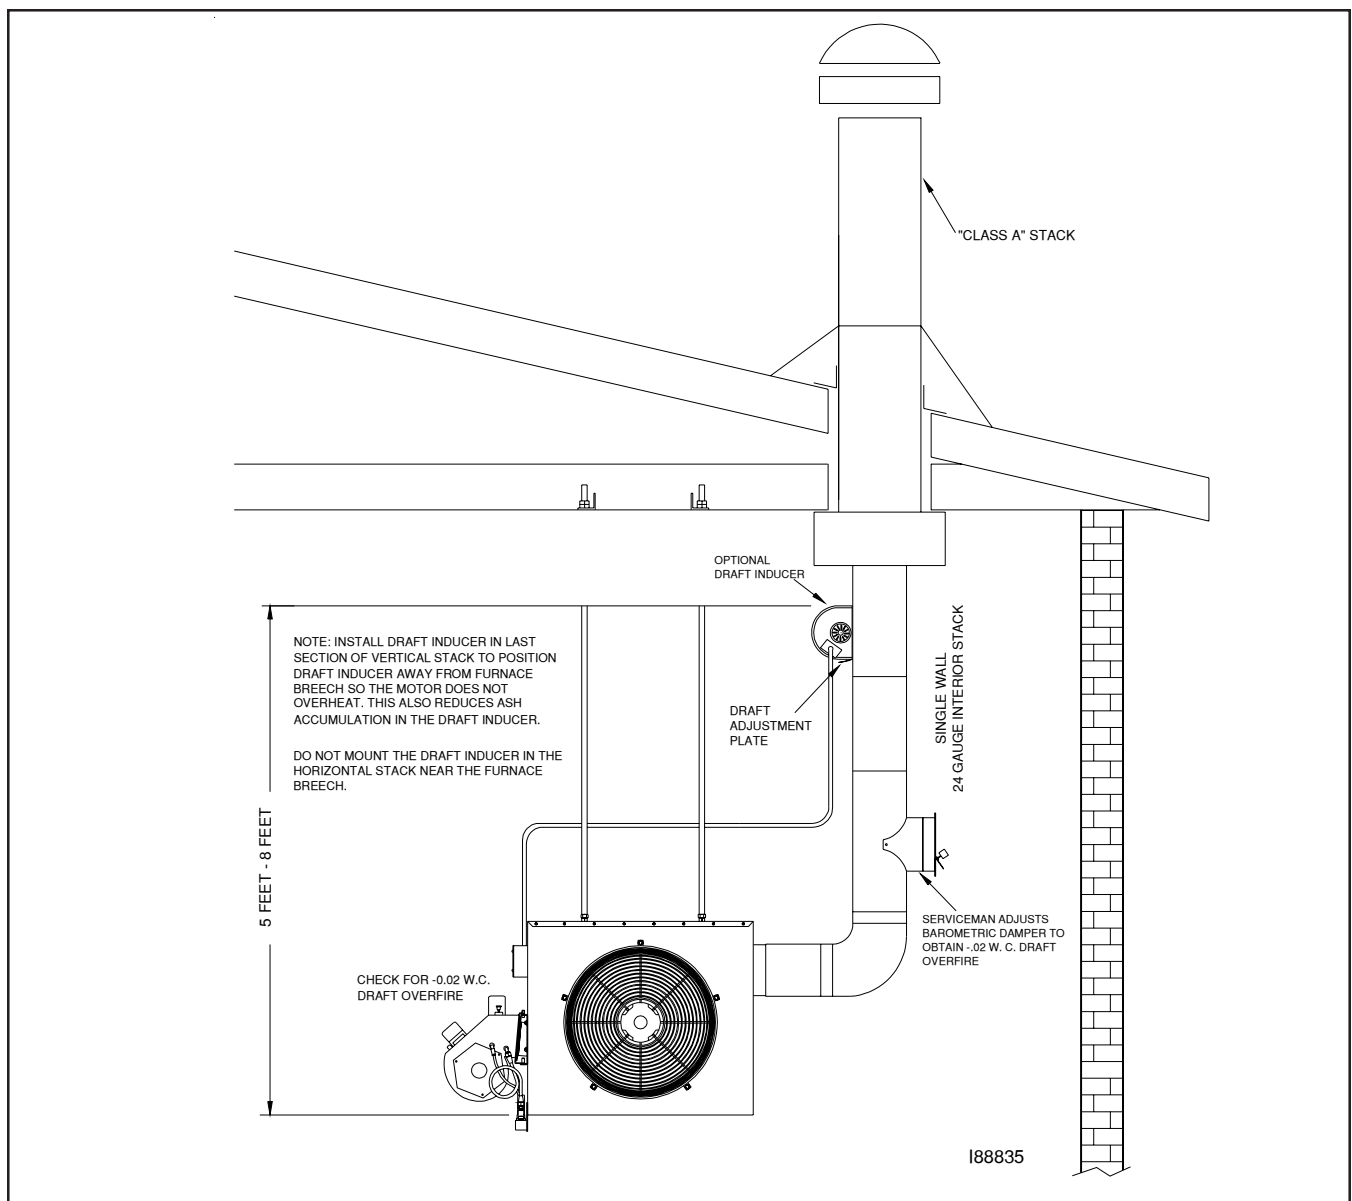

Figure 4Q - Installation of the Optional Draft Inducer
The draft inducer is designed to aid in the removal of the natural draft created by the appliance to vent the combustion gases to the outside of the building. As the paddle wheel turns, a negative pressure is maintained within the stack so that the combustion gases can leave the furnace and travel out of the stack. (See Figure 4Q.) *Proper sizing, installation, and adjustment of the draft inducer are critical for optimal draft inducer operation.*
1. Refer to Figure 4Q. Follow the instructions included with the draft inducer to mount the draft inducer on the section of single-wall vertical stack.